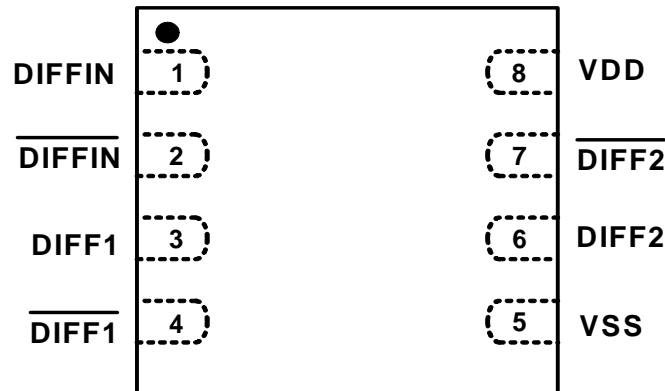

Figure 5. 8-Pin TDFN
- Corrected Figure 5 title on page 10.